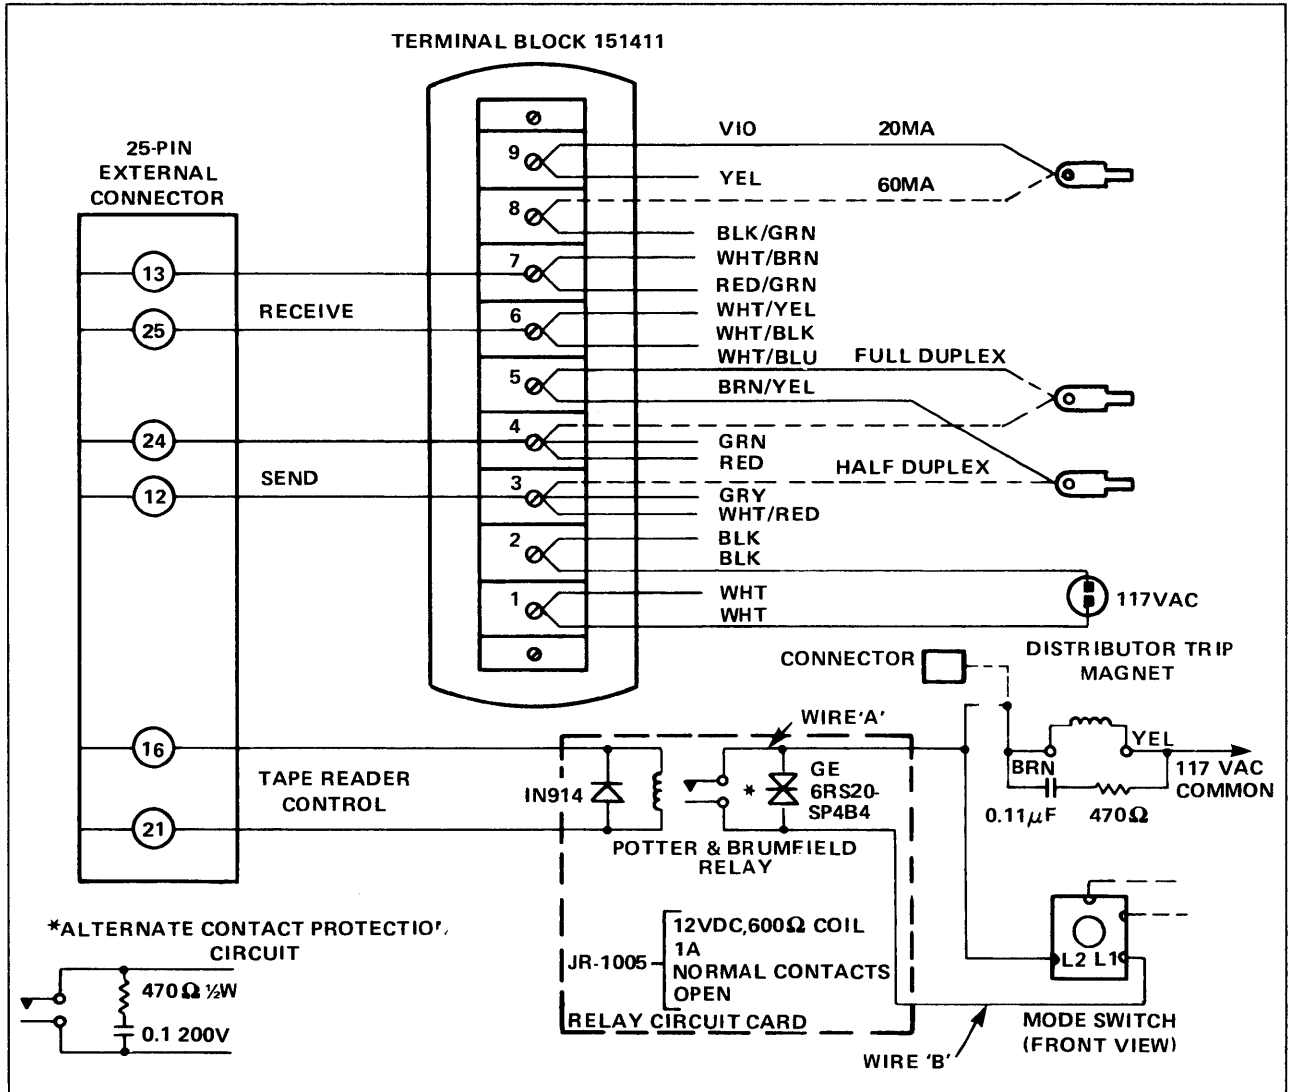
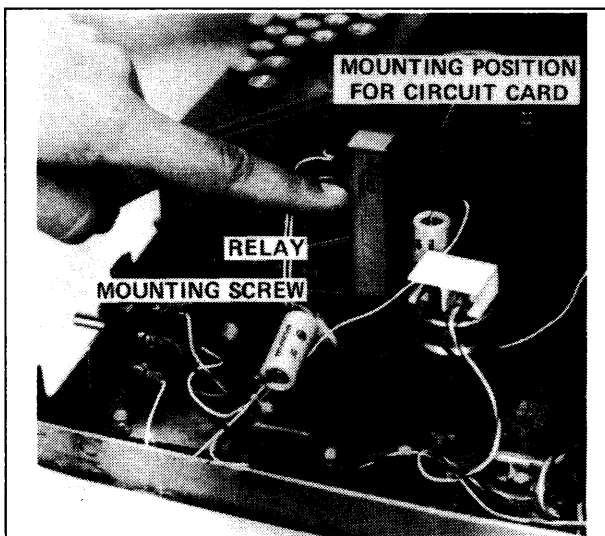
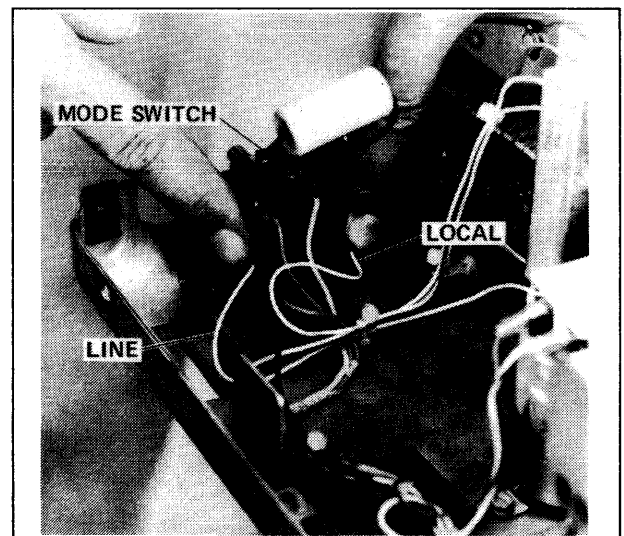

Figure D-4. Teletypewriter Modifications
Figure D-5. Relay Circuit
Figure D-6. Mode Switch
A circuit diagram of the relay circuit card is included in Figure D-4; this diagram also includes the part numbers of the relay, diode, and thyrector. (Note that a 470-ohm resistor and a 0.1 μ F capacitor may be substituted for the thyrector.) After the relay circuit card has been assembled, mount it in position as shown in Figure D-5. Secure the card to the base plate using two self-tapping screws. Connect the relay circuit to the distributor trip magnet and mode switch as follows:
1. Refer to Figure D-4 and connect a wire (Wire A) from relay circuit card to terminal L2 on mode switch (See Figure D-6).
3. Refer to Figure D-4 and connect a wire (Wire B) from relay circuit board to terminal L1 on mode switch.
Connect a two-wire receive loop, a two-wire send loop, and a two-wire tape reader control loop to the external device as shown in Figure D-4. The external connector pin numbers shown in Figure D-4 are for serial channel 1 on the Intellec Series II.